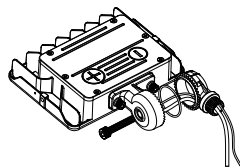

figure 1.2
Step 3: Pass the wires through from the other bracket and rubber, fix it with screws.(Watch out not to scratch the wire); (figure 1.2)